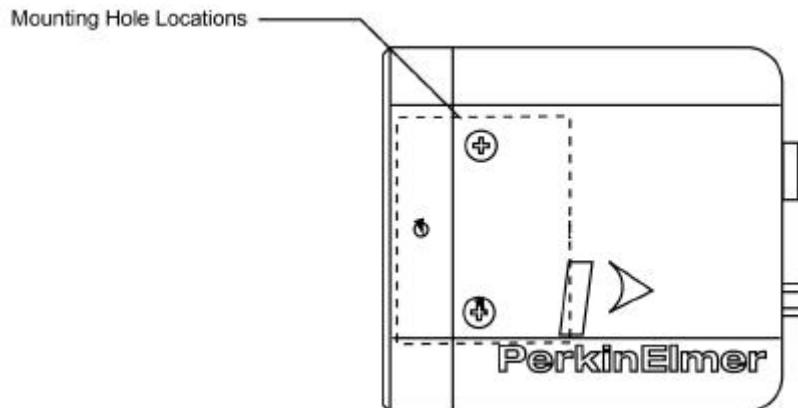

Figure 7 LC3000 Series Camera Mounting Hole Location
Camera mounting distance from the object to be imaged is determined by the required object width X, the camera array size and the selected lens and extension. See section 6.1 for some general guidelines for physically locating your camera for your application. Mounting the camera requires the supplied mounting plate or customer supplied adapter. Figure 7 shows the location of the mounting holes for attaching the camera to the mounting surface, specifies the mounting hole thread and defines the sensor optical distance setback AF (5.8 mm). The same mounting provisions are provided on each of the camera 4 sides.
3. Fabricate the necessary mounting adapters to be used for installing the camera. Refer to Figure 7 on page 12 for mounting hole location and thread definition.